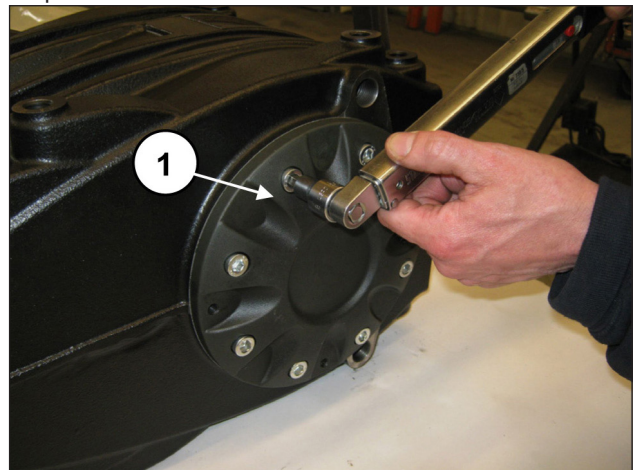

Fig. 60
Tighten the 8 M10x30 screws (pos. ①, Fig. 60). Calibrate the screws with a torque wrench as indicated in chapter 3.